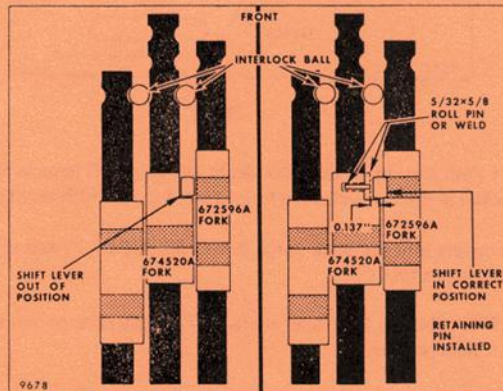

Fig. 1.
- a. 672 416A Interlock Ball for 674 520A Hi-Low Range Shift Fork may have been left out at assembly. Interlock ball locks center rail in position which in turn is used to lock transmission in gear with end of shift lever (Fig. 1).
- b. Notch in 674 520A Shift Fork may be of excessive depth allowing shift lever to move out of position (Fig. 1). 672 596A Fork will not be locked in position, allowing fork to move to rear with resultant gear disengagement.
Drill 5/32-inch hole approximately 1/2-inch deep and install 933 165 Roll Pin (5/32 x 5/8-inch) (Fig. 1). Use care to catch all shavings while drilling hole in fork. CAUTION: Pin must leave 0.137-inch (3.5 mm) notch (Fig. 1).